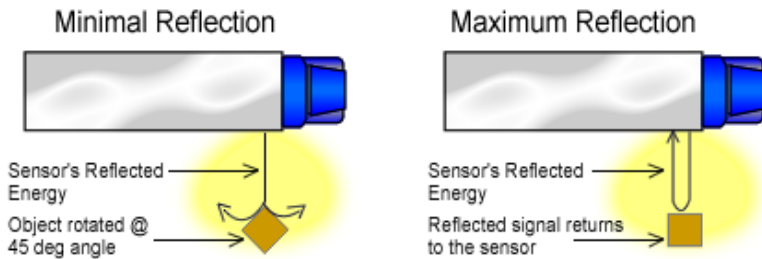

Figure 4 - Object Reflection
**Angle** – an object flat side perpendicular to the sensor will reflect more energy than an object at an angle. See Figure 4 for an example of how angle can affect return energy.